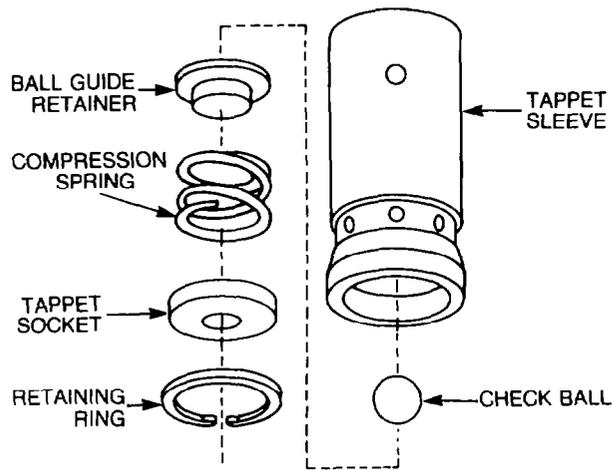

Figure 81 — Tappet Sleeve — Disassembly
- q. Using a suitable pair of circlip pliers, remove the retaining ring from the tappet sleeve (see Fig. 81), then remove the tappet socket, compression spring, ball guide retainer and the check ball.